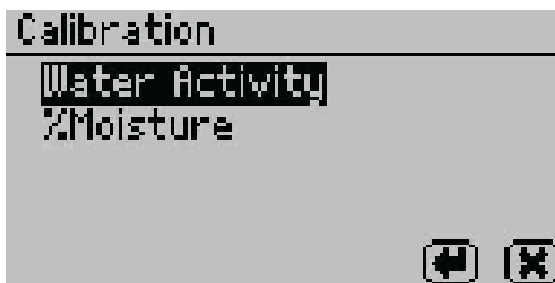

Figure 27 Calibration option
- **Calibration.** Select to start the calibration process (Section 4.1) for water activity or moisture content (Figure 27). Resetting factory defaults is described in Section 4.1.4.